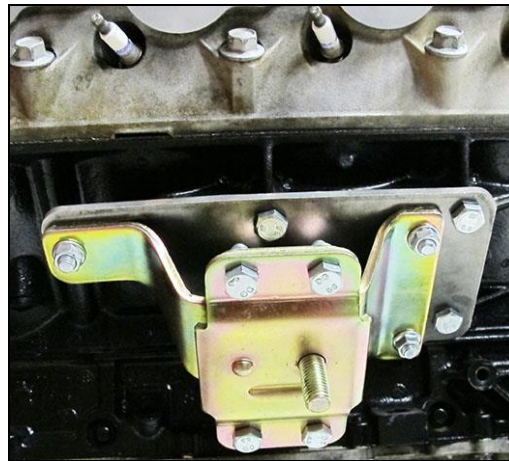

Figure 2
5. Using the supplied 3/8 nuts, attach a stock replacement rubber, or aftermarket polyurethane Ford 4.6L modular engine mount to the right (passenger's side) engine plate as shown below in **Figure 2**. Install the remaining engine mount onto the left side of the engine in a similar fashion.